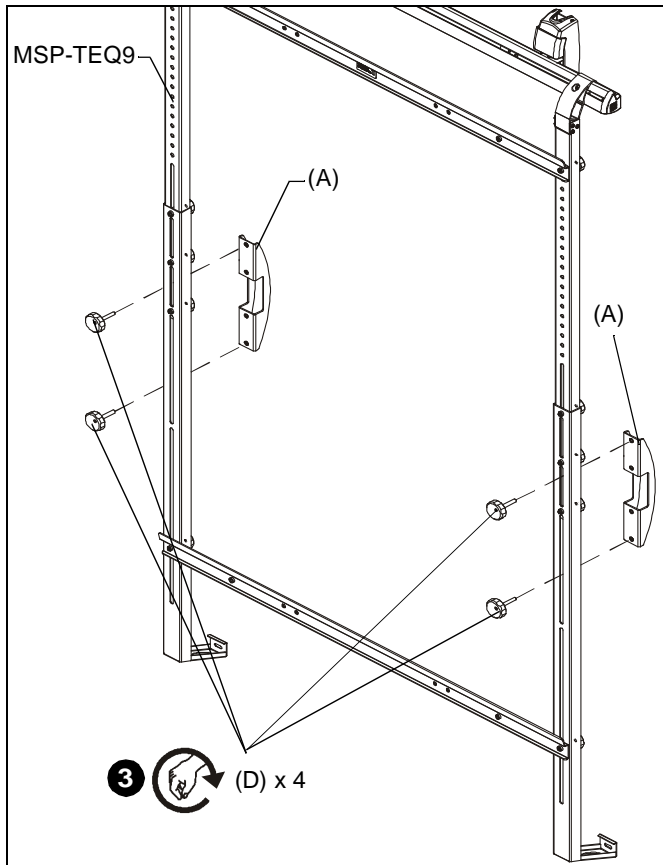

Figure 1
3. Attach two interface uprights (A) to back of MSP-TEQ9 at desired height using two knobs (D) in each interface upright. (See Figure 1)